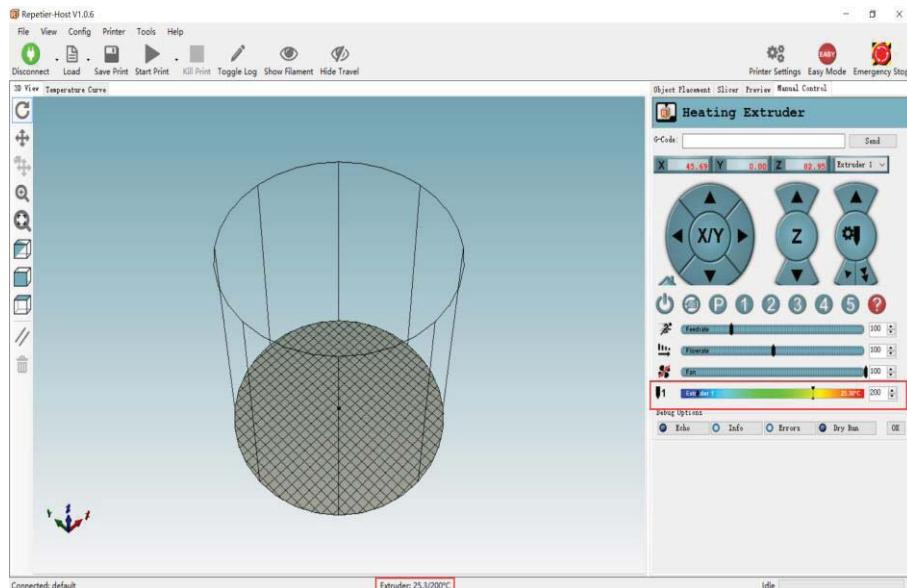

Figure 5.132 Heat the extruder
**Repetier Host** page and click  , as shown in Figure 5.132.